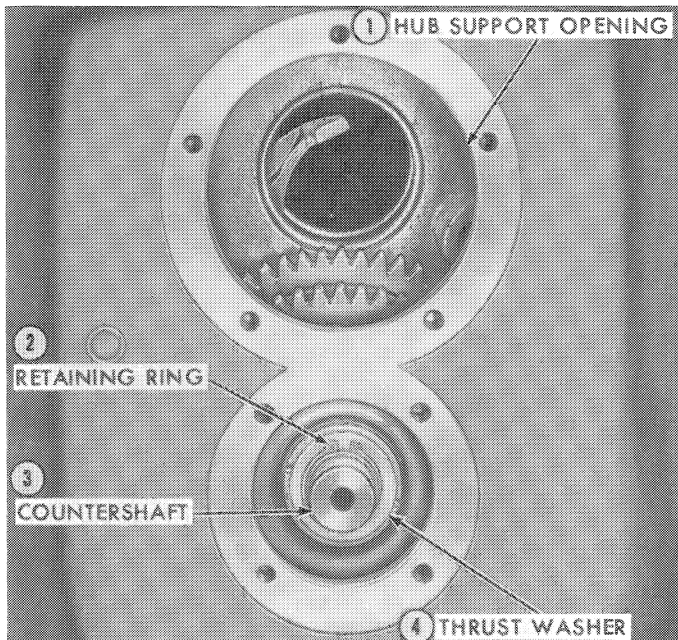

Figure 55
12. Remove the retaining ring and the thrust washer from the front end of the main countershaft, Figure 55.